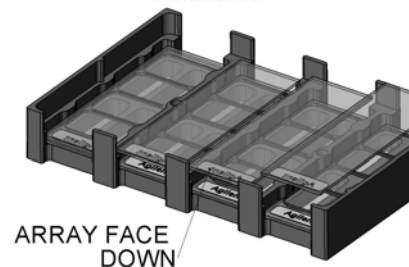

FIGURE 5
4. Holding array at the ends with the array side down and ensuring that the barcode side matches with the one on the gasket slide, bring the array down slowly holding it horizontal to the gasket slide (Figure 5). Placing the array evenly onto the gasket slide is crucial to prevent spilling or leakage.